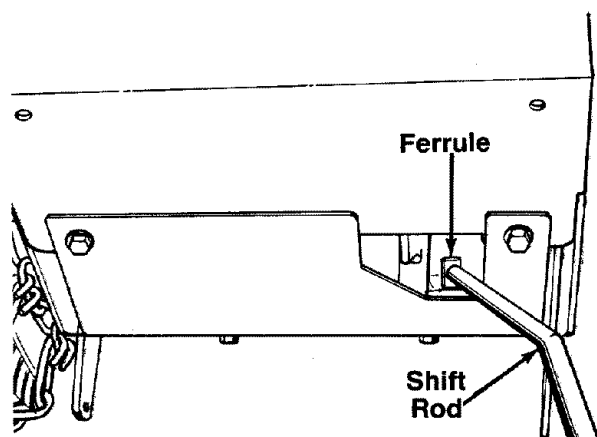

FIGURE 9.
1. Place the threaded end of the shift rod inside the back cover plate. See figure 9. Thread rod part-way into ferrule.